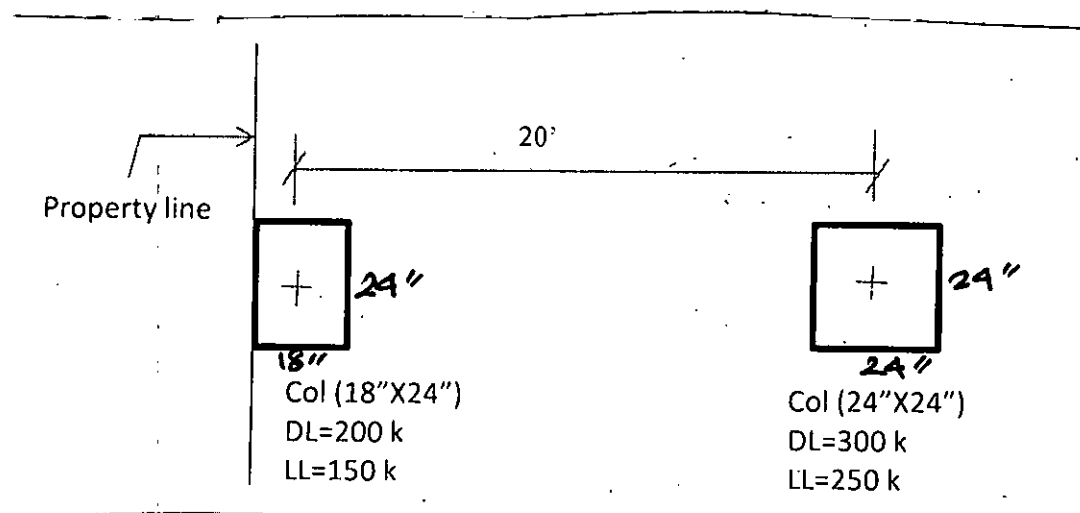

Fig. 5
7. (a) A 15" concrete wall supports a dead load, DL = 16 kip/ft and a live load, LL = 12 kip/ft. The allowable bearing capacity of soil is 4000 psf at the bottom level of footing which is 5ft below grade. Design the footing of the concrete wall with $f'_c = 3000$ psi and $f_y = 40000$ psi. Check development length. (21)
(b) Select the length and width of the combined footing supporting two columns as shown in Fig. 5. The bottom of the footing is 6 ft below grade where allowable bearing capacity is 5000 psf. The outer end of the combined footing cannot protrude beyond the outer face of exterior column which coincides with property line. (14)